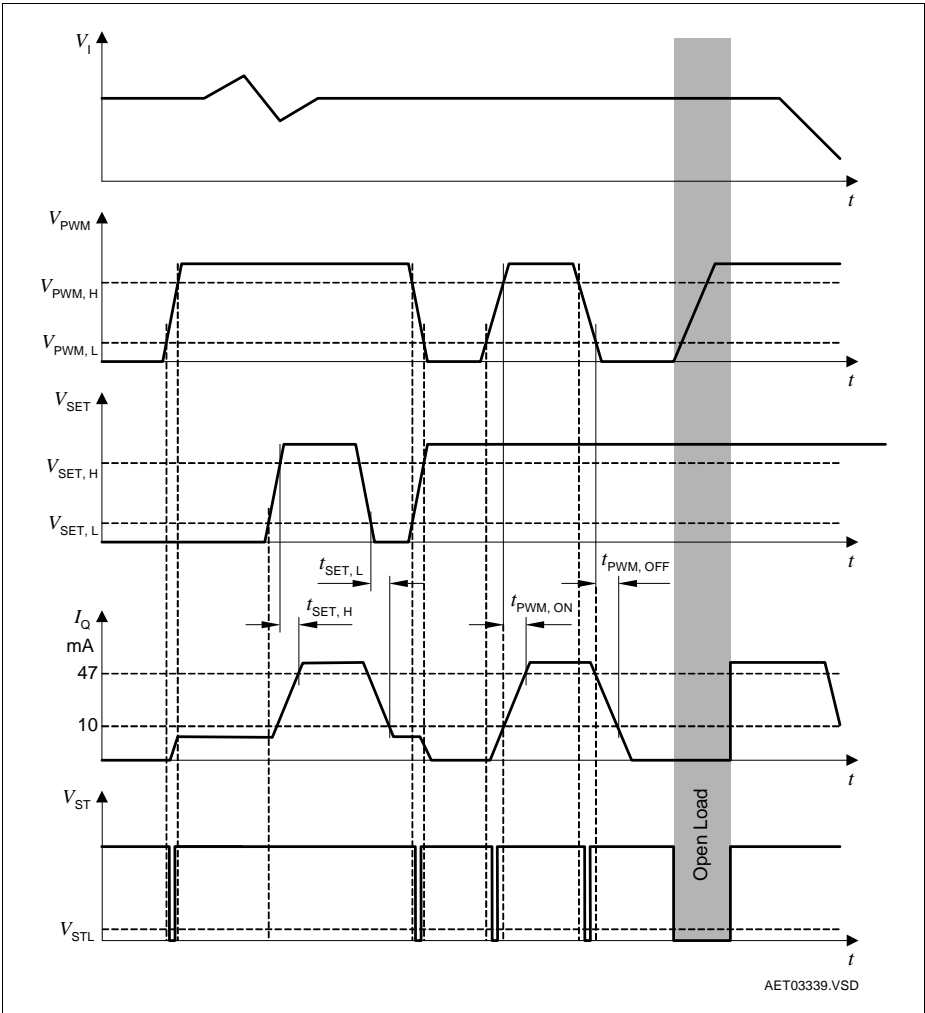

**Figure 3 Application Circuit**
**Figure 3** shows a typical application with the TLE 4241 GM LITIX™ Linear. The 3 LEDs are driven with an adequate supply current adjusted by the resistor  $R_{REF}$ . Thus brightness variations due to forward voltage spread of the LEDs are prevented. The luminosity spread arising from the LED production process can be compensated via software by an appropriate duty cycle applied to the PWM pin. Hence selection of the LEDs to forward voltage as well as to luminosity classes can be spared. The slightly negative temperature coefficient of the TLE 4241 GM output current protects the LEDs against over-temperature stress if the IC is placed nearby the LEDs.